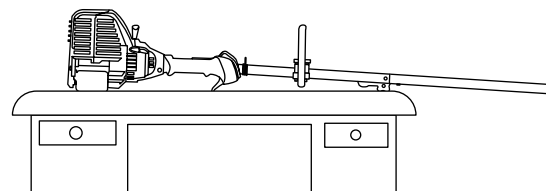

Fig. 26
- Place the engine on a flat, level surface with the cutting head shield hanging off a work bench or table to get a proper oil level reading (Fig. 26).